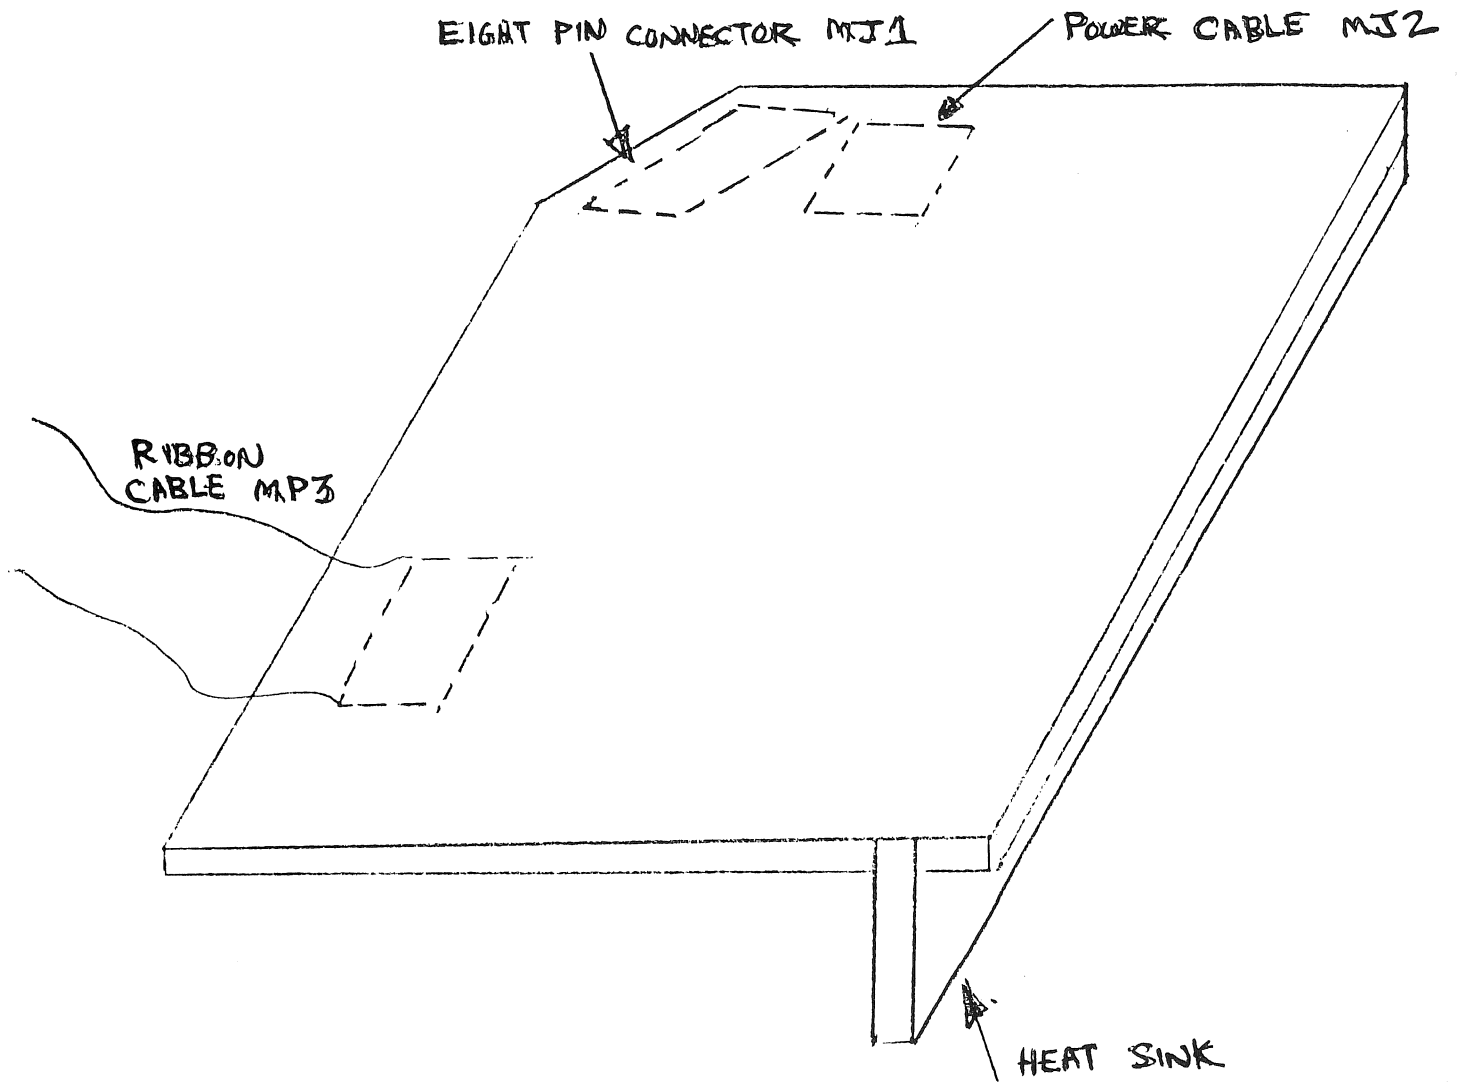

FIGURE 1-5
1.4.3 MOS Regulator Assembly (see Figure 1-5)